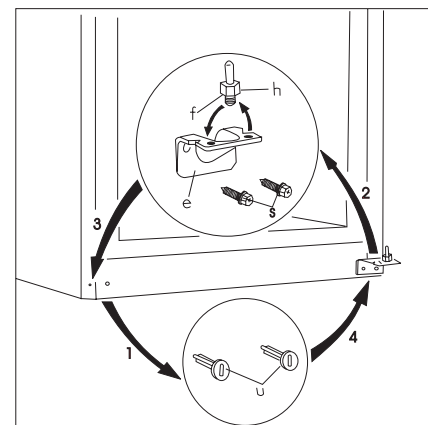

fig. 3.
10. Remove the plugs (u) at the bottom of the appliance. (fig.3)
11. Remove the lower hinge (e) by removing its screws (s) and mount it on the other side. (fig.3)
12. Unmount the lower hinge pin (f) and its washer (h) and mount them into the other hole of the lower hinge. (fig.3)
16. Fit the freezer door to the lower door hinge pin (f). (fig.3)